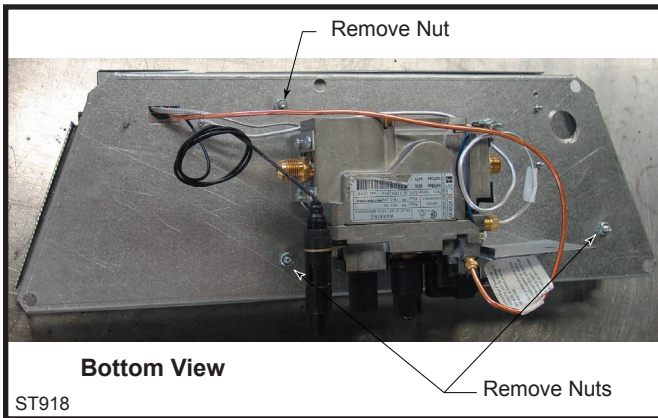

Fig. 74 Remove three (3) nuts securing ember bed in place.
1. Remove three (3) 3/8" nuts on bottom side of burner pan. (Fig. 74)
2. Thread and tighten 3/8" nuts back onto pem studs on underneath side of control panel, reversing Step 1 shown in Figure 74.